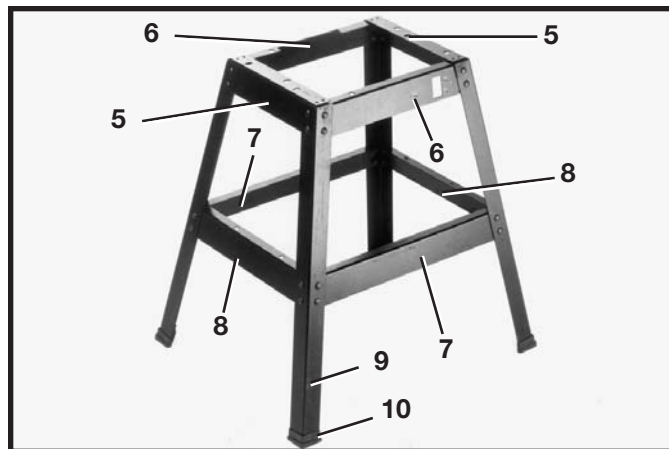

Fig. 5
1. Assemble stand as shown in Fig. 5 using parts shown in Fig. 4. The parts for the stand (as shown in Fig. 4) are:
To assemble, insert the 5/16-18x3/4" carriage head bolts through legs and braces then place the 5/16" flat washers on the bolts and secure with the 5/16-18 hex nuts. **Only tighten nuts finger-tight at this time.** **IMPORTANT:** The top lips of two upper end braces (5) Fig. 5, must fit on top of the top lips of two upper side braces (6).
2. Assemble four rubber feet (10), to the bottom of each leg (9) as shown.